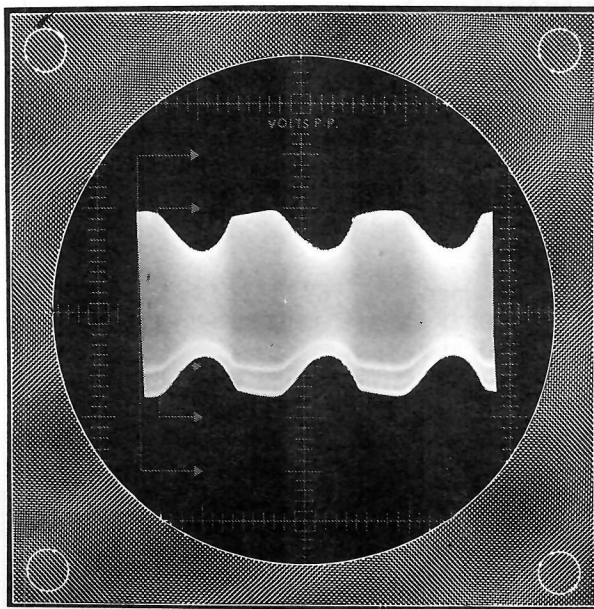
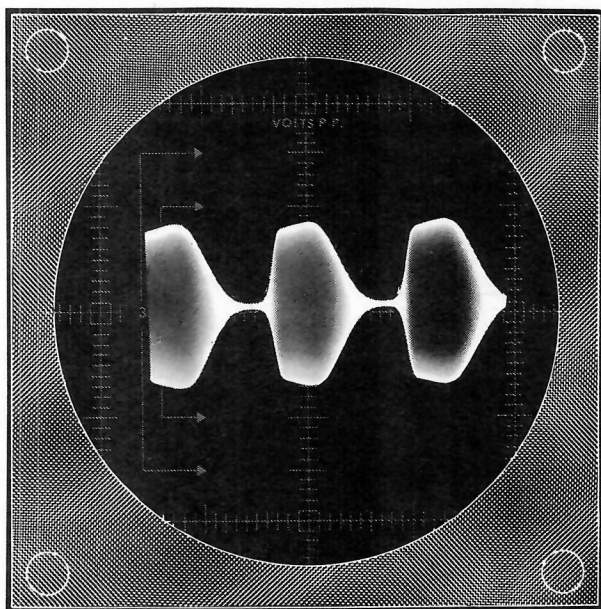

Figure 3-97
Figure 3-96
Figure 3-96 shows "hills and valleys" in the RF waveform. The more pronounced the valleys become, the greater is the percentage of audio frequency that is impressed on the radio frequency waveform. The impressing of the two different frequencies is called amplitude modulation. When the oscilloscope is set to view audio frequencies (about 1000 cycles per second) and one-half as much audio is impressed on the RF, almost 100% modulation results, as shown in Figure 3-96. When less than one-half is impressed on the RF Figure 3-97 shows less than 100% modulation. If more audio frequency is
- ( ) Slowly turn the 20 K $\Omega$  control until a waveform such as in Figure 3-96 appears.
- ( ) Slowly turn the 20 K $\Omega$  control toward the maximum position and note the changing waveforms. You should observe all these waveforms, as in Figures 3-96, 3-97, and 3-98. The frequency vernier may have to be adjusted slightly as you do this procedure.